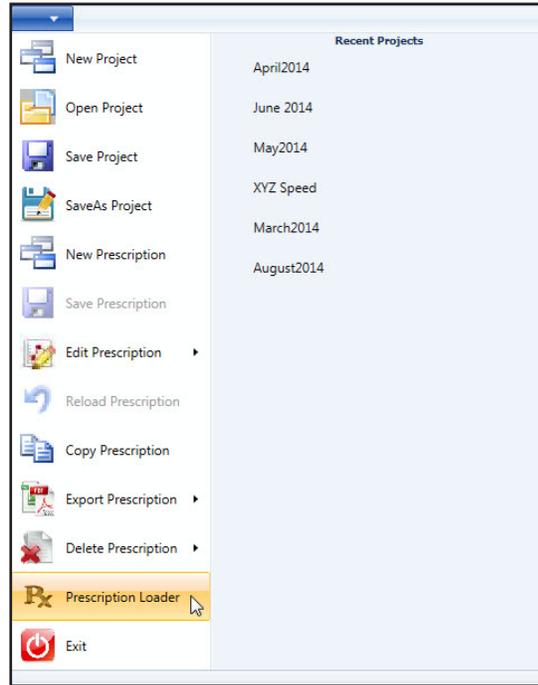

Figure 38-1 Select Prescription Loader
2. Select **Prescription Loader** in the VRI drop-down menu. (Refer to Figure 38-1.)